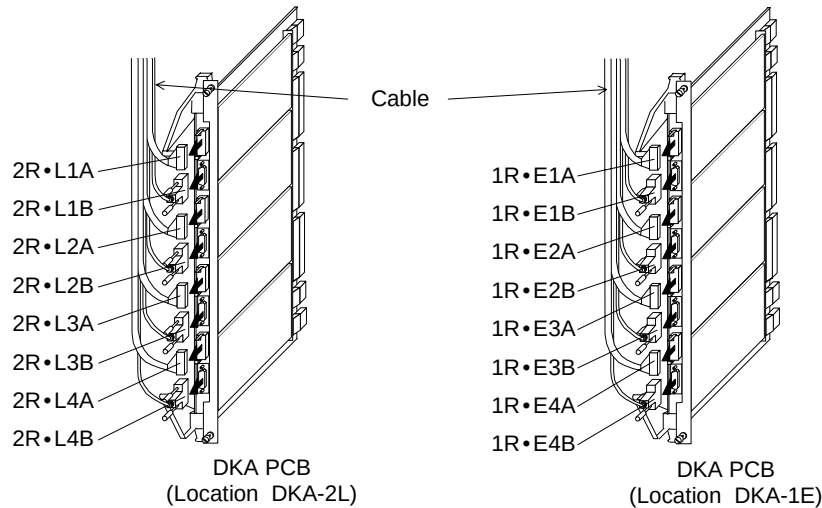

Fig.4.1.8-18 Disconnection of DEV Interface Cable (Add.3)
- a. Remove the two screws and remove the PCBs from the correct locations in the Rear Logic Box referring to Fig. 4.1.8-19.